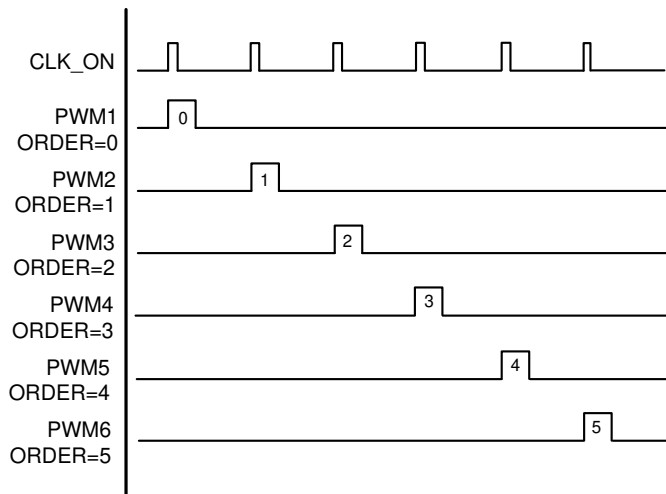
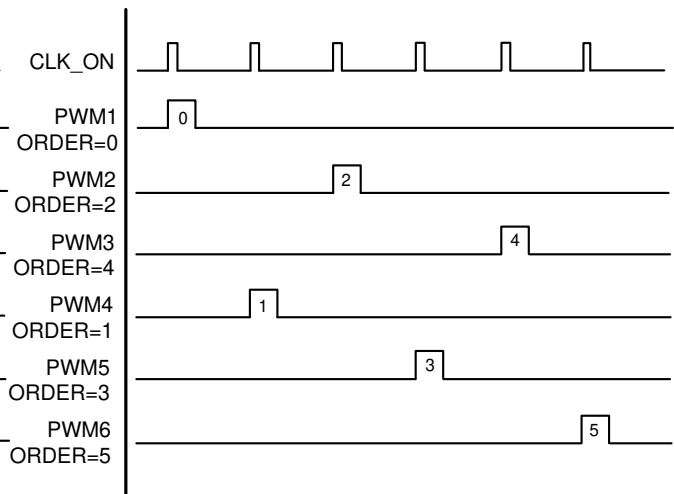

図 7-15. 0-1-2-3-4-5 fire order (6 phase example)
図 7-16. 0-2-4-1-3-5 fire order (6 phase example)
- **ORDER:** Controls the order in which phases are fired with respect to each other. 図 7-15 and 図 7-16 illustrate the effect of different ordering assignments. Reconfigure the phase ordering to ensure adjacent phases do not interfere with each other due to layout related coupling issues. If dynamic phase shedding is used, phases add or drop according to their assigned ORDER value.